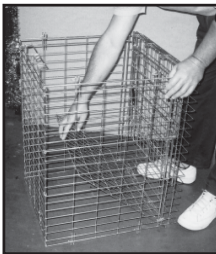

Figure 2
2. Open collapsed Wire Pet Cage (#1). Lift Back Side (#2) and snap into Latches (#5) securely. (See Figure 2 & 3).